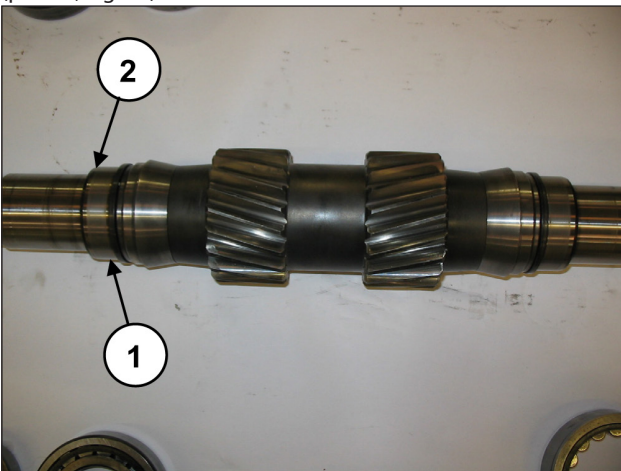

Fig. 33
Remove the internal bearing rings from the PTO shaft (pos. ①, Fig. 33) and also take out the two internal bearing spacers (pos. ②, Fig. 33).